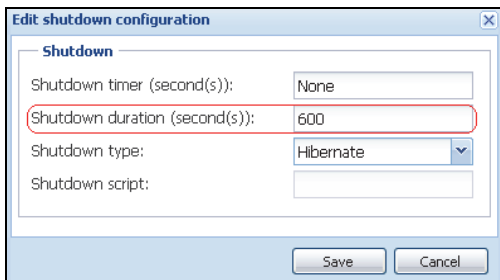

Figure 91. Edit Shutdown Configuration Dialog Box
- Figure 91 illustrates the Dell MUMC default configuration available from **Settings > Shutdown > Edit Shutdown Configuration**.